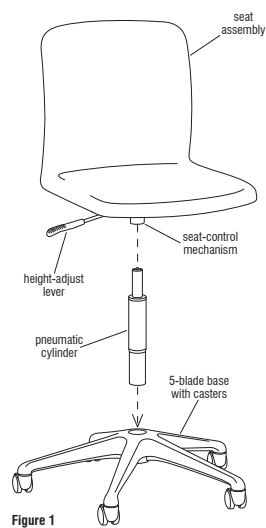

Figure 1
1. Carefully unpack all contents from packaging, then locate and identify the parts shown in Figure 1.
2. Turn the 5-blade base with casters to the upright position onto the floor. Orient the pneumatic cylinder as shown placing the larger end of the cylinder into the hole in the center of the base as illustrated (Figure 1).
3. Carefully position the seat assembly over the pneumatic cylinder, aligning the hole in the underside of the seat-control mechanism with the top, smaller end of the pneumatic cylinder. Press the seat assembly onto the pneumatic cylinder, then sit on the seat to completely drive the components together. While sitting, acuate the height-adjust lever to move seat to its lowest height position, then press lever and release seat pressure to adjust up to comfortable sitting height. Failure to do so could result in personal injury (Figure 1).